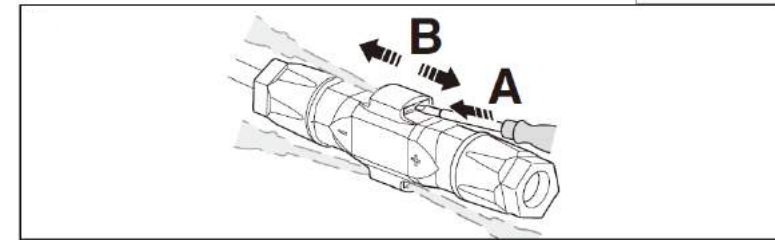

Figure 5-13
- 1) Insert the screwdriver into one of the four openings(Figure 5-13,A).
- 2) Leave the screwdriver in the opening. Pull the two connectors apart(Figure 5-13 ,B).